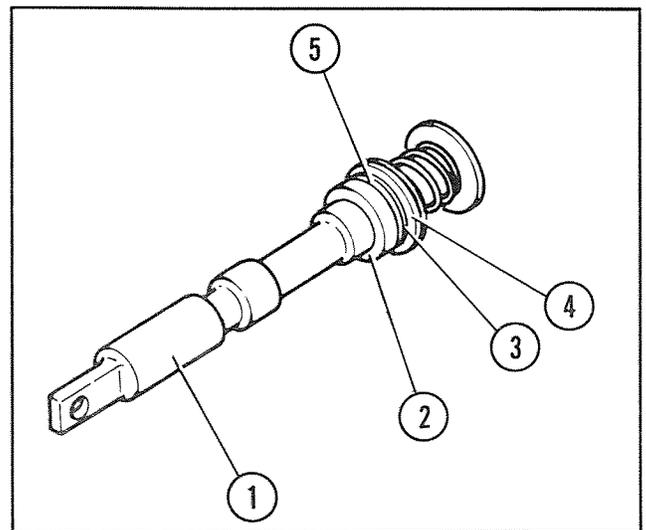

Figure 12
2. Install the spool in the housing together with the seal ring, back-up ring and washer, Figure 12.